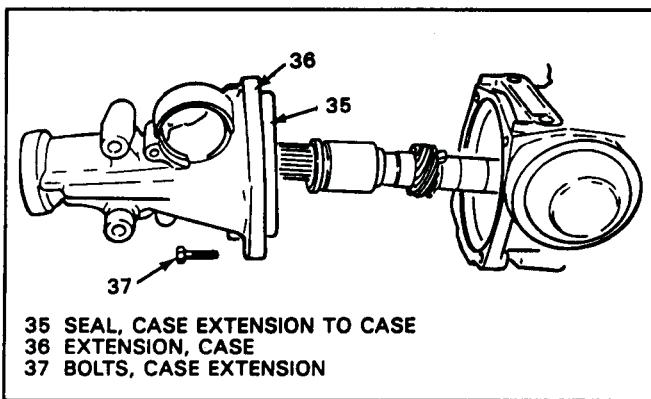

Figure 211
4. Install new "O" ring into the output shaft sleeve, and install onto the output shaft as shown in Figure 210. NOTE: NOT USED ON ALL MODELS. DO NOT PUSH THE SLEEVE PAST THE MACHINED SURFACE ON THE OUTPUT SHAFT. (SEE FIGURE 211).
5. Install new square cut seal onto the extension housing (See Figure 211).
7. Install extension housing on the case so the speedometer hole is on the same side of case as governor cover, shown in Figure 211.